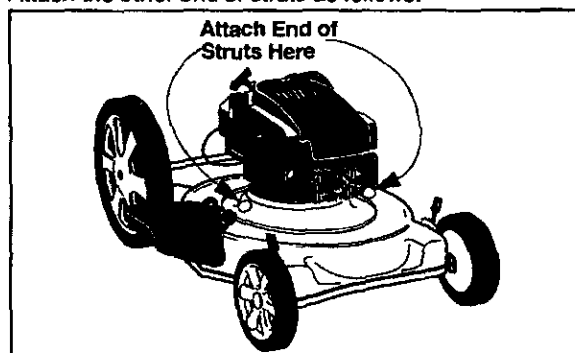

Figure 11
- Insert carriage bolt up through hole in deck beside the engine and through the strut. Secure with lock washer and hex nut from the hardware pack. Repeat step on the other side. See Figure 11.